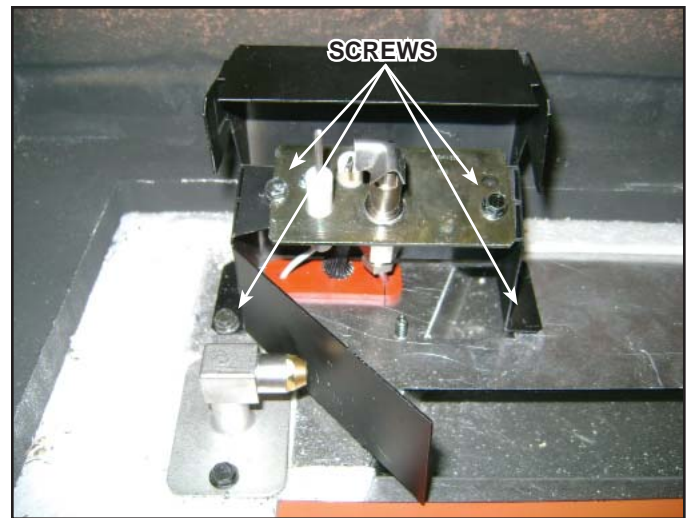

Figure 6. Pilot Burner Service
11. Detach the pilot from the pilot bracket by removing two screws. See Figure 6.
12. Bend open front of pilot bracket. Remove the pilot bracket from the appliance by removing a screw from the left and the right sides of the bracket. See Figure 6.